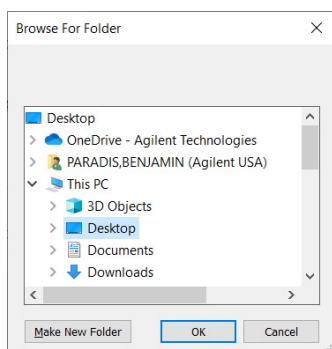

Figure 21. Choose a save location for the CSV Import files.
- 6 Select a file save location (Figure 21)